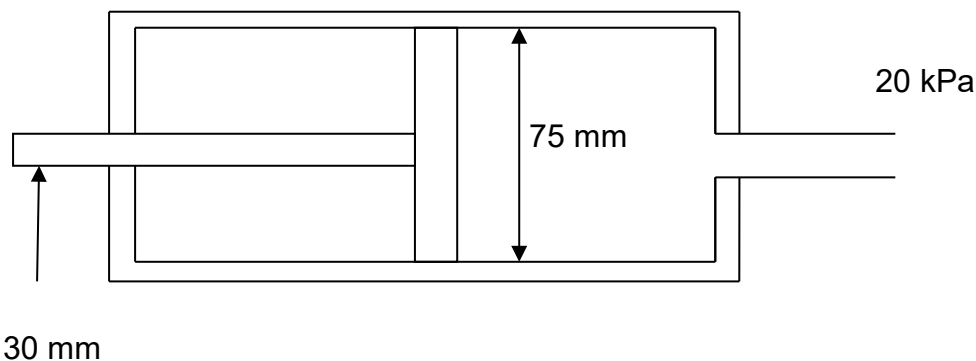

FIGURE 1
2.2 The diameter of a piston of a double-acting single-rod actuating cylinder is 75 mm and the diameter of the rod is 30 mm as shown in FIGURE 1. The actuator is fitted to a system where the pressure is maintained at 20 kPa.